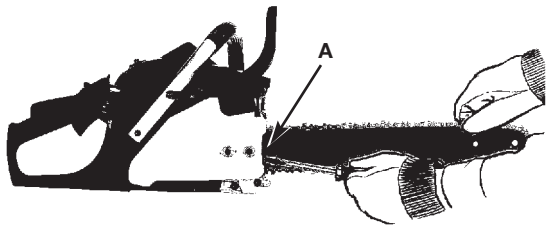

Fig. 28
1. Loosen bar nut, then hold nose of guide bar up and turn adjustment screw (A) **CLOCKWISE** to increase chain tension. Turning screw **COUNTERCLOCKWISE** will decrease amount of tension on chain. Insure the chain fits snugly all the way around the guide bar (Fig. 28).